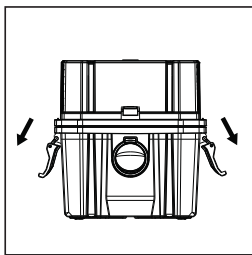

FIG. 6
- Remove the power head assembly of the wet/dry vac by pulling outward on the lid clips located on each side of the vac. Lift off the power head assembly. (Fig. 6)